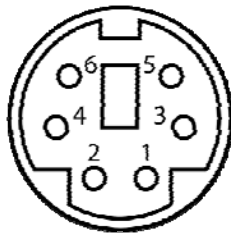

Figure 3-21: PS/2 Pinout and Configuration
- CN Pinouts:** See **Table 3-20, Figure 3-21**